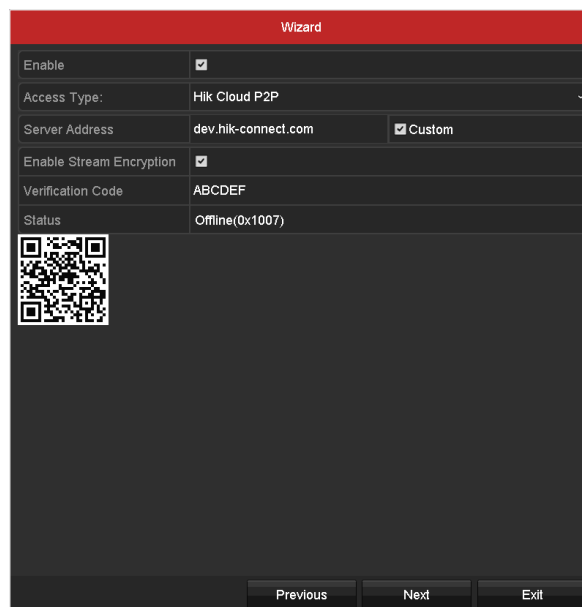

Figure 2-22 Hik Cloud P2P Interface
Step 8 Click **Next** button after configuring the advanced network parameters, which will take you to the **HDD Management** interface as shown in Figure 2-22.